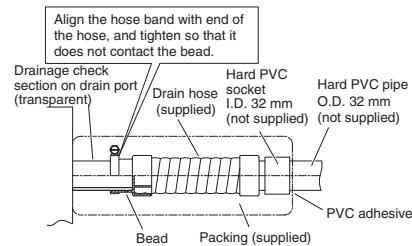

Fig. 3-24
When doing this, leave a gap between the drain socket and the PVC pipe to allow the drainage to be checked. The unit's transparent drain port allows you to check the drainage. (Fig. 3-24)
- Insert the drain pipe until it contacts the socket, as shown in Fig. 3-24, then secure it tightly with the hose band.
- Tighten the hose clamps so their locking nuts face upward. (Fig. 3-24)